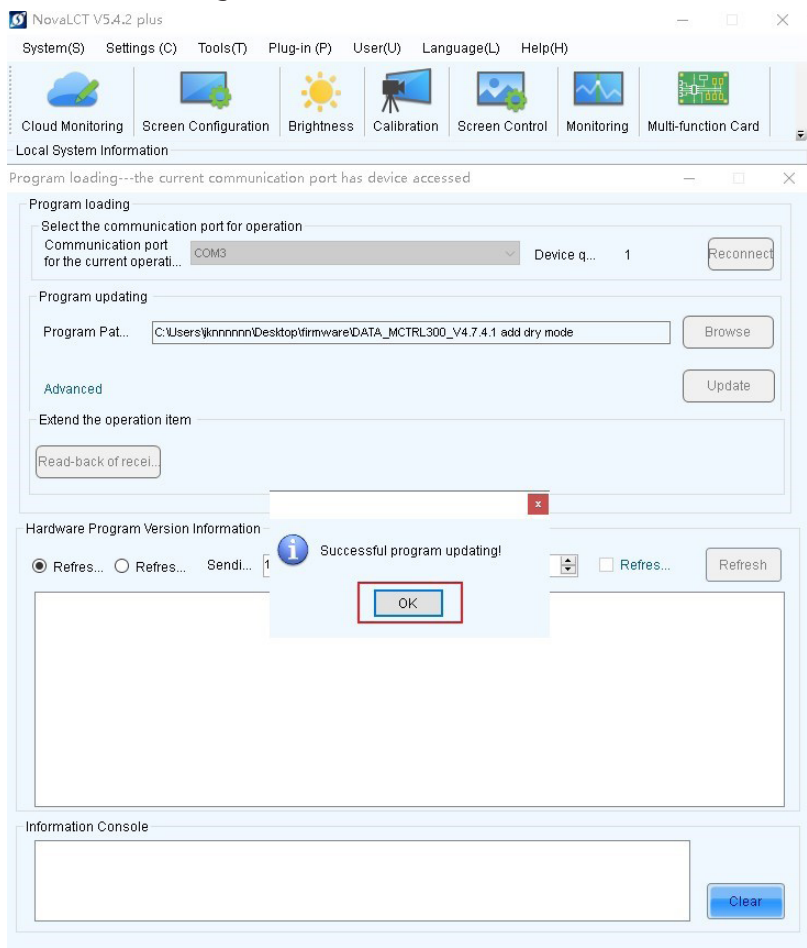

Figure 1-7
7. After the update is complete, click OK. See Figure 1-7.